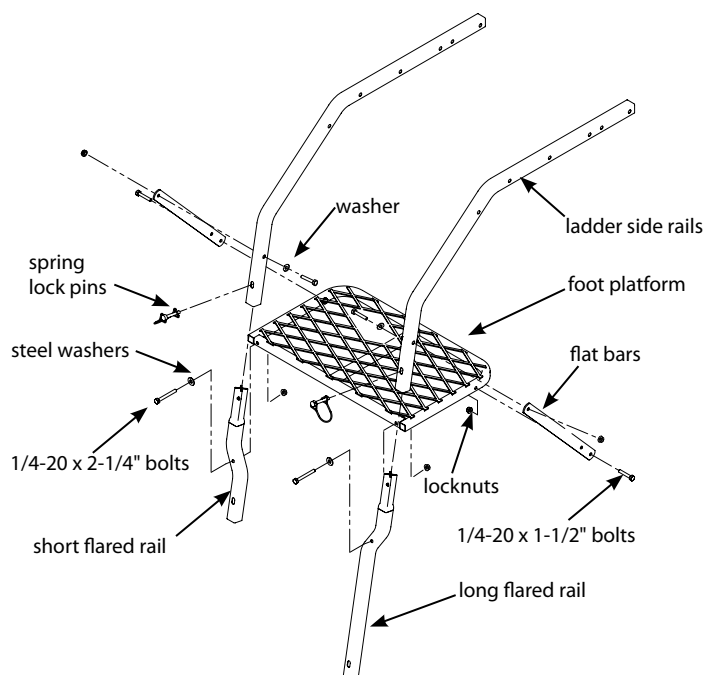

Figure 1
1. Attach the short flared rail (410031) and the long flared rail (410037) to the foot platform (410047) using (2) provided 1/4-20 x 2-1/4" bolts, locknuts and steel washers. **SEE FIGURE 1. DO NOT tighten all nut and bolt assemblies completely!**
NOTE: Mesh surface of foot platform should be on top. Make sure the short and long flared rails are orientated correctly per Figure 1.
2. Insert the two flared rails into the (2) ladder side rails (410030). Attach the (2) foot platform flat bars (AL7) to the foot platform and the ladder side rails using (4) provided 1/4-20 x 1-1/2" bolts, locknuts and (2) steel washers. **SEE FIGURE 1.** Secure the ladder side rails to the flared rails using (2) provided spring lock pins. Handle of spring lock pins must be put to the outside of ladder side rails. **SEE FIGURE 1.**